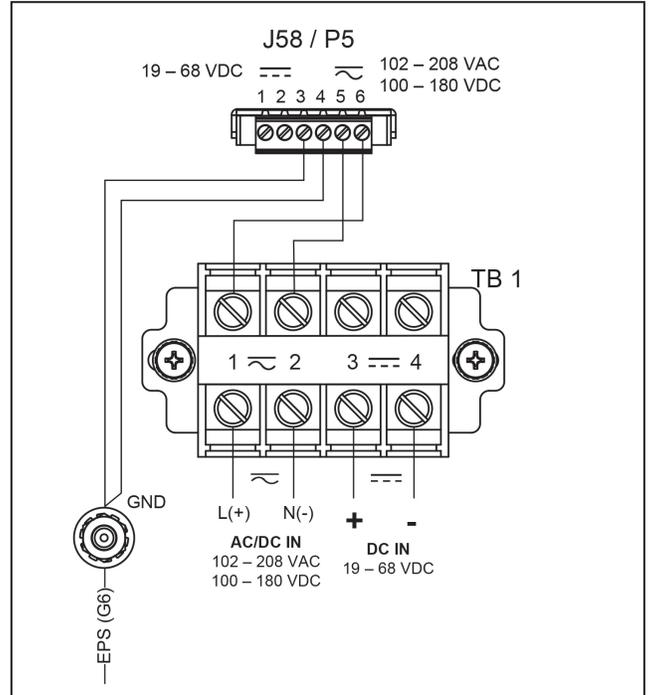
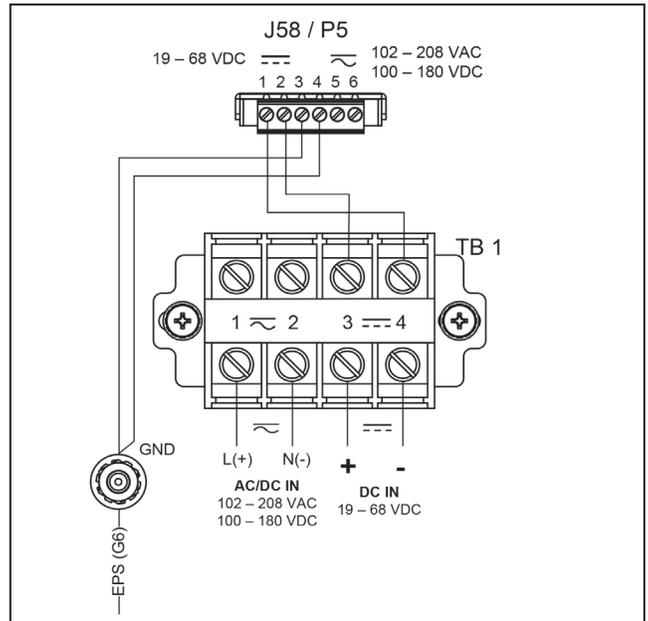

Figure 3. The default power connections.
Figure 4. The 24-Vdc/48-Vdc control power connections.
The external interface assembly can be operated from a control voltage source and is compatible with 24-Vdc, 48-Vdc, and 125-Vdc substation batteries. By default, it is wired for a 120-Vac source or 125-Vdc battery. Alternatively, it can be wired for a 24-Vdc or 48-Vdc battery. Figure 3 shows the connections for 125-Vdc battery or 120-Vac operation. Figure 4 shows the default wiring for the 24-Vdc and 48-Vdc battery operation.
- STEP 1.** Select the appropriate control power connection from Figures 3 and 4 on page 9. Connect control power to connector J58/P5.